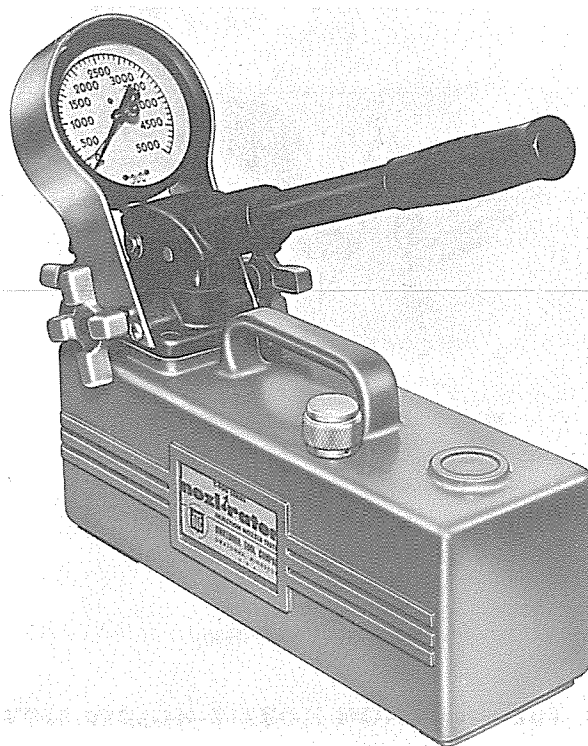

Fig. 10 Fuel Injection Nozzle-Holder Tester
When adjusting "popping" pressure of a new nozzle-holder or a rebuilt nozzle-holder in which a new spindle spring has been installed, the initial "popping" pressure should be set 25 psi higher than specified pressure. This will compensate for the initial set of a new nozzle spindle spring. The opening pressure ("popping" pressure) is adjusted by means of the pressure adjusting screw. Turning the adjusting screw counterclockwise decreases the opening pressure; turning the adjusting screw clockwise increases the opening pressure. A nozzle tester, similar to the one shown in Fig. 10, must be used to observe the opening pressure, spray pattern, and general function of the nozzle.
1. Using a nozzle tester similar to the one shown in Fig. 10, operate tester handle a few quick strokes and observe "popping" pressure of fuel injection nozzle-holder as indicated by pressure gauge of the nozzle tester. For specified pressure, refer to FUEL INJ. NOZZLE ASSEMBLIES S. M. 70682797.